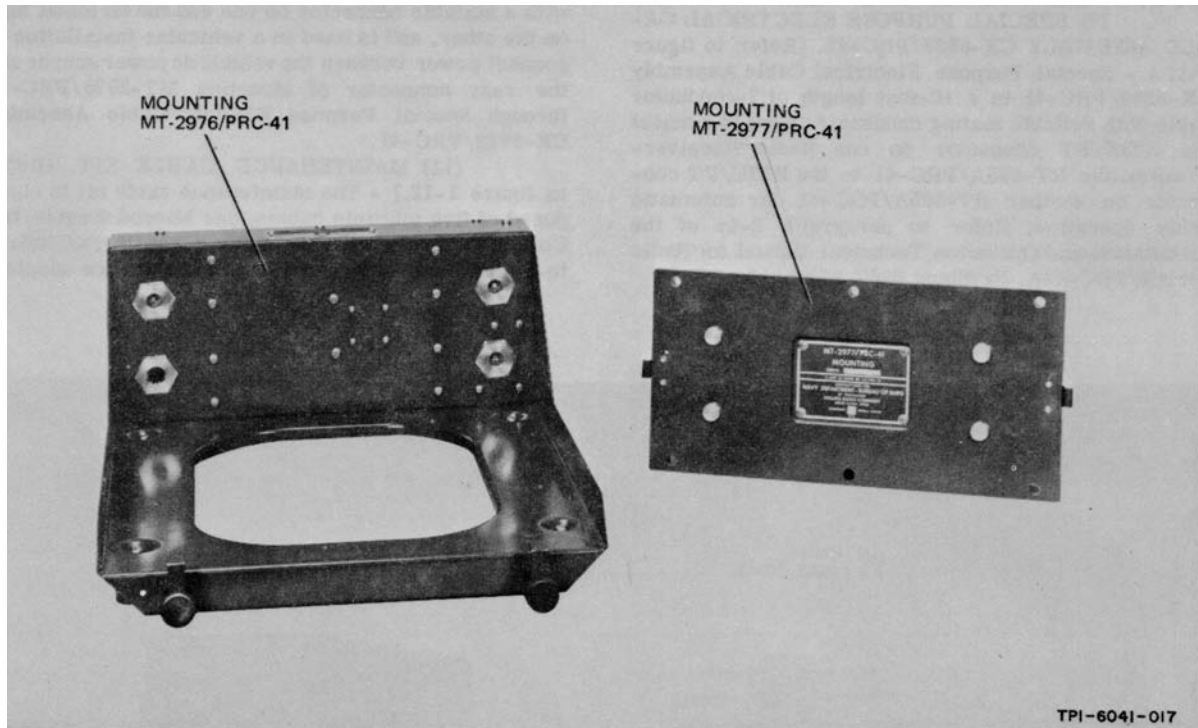

Figure 1-8. Mounting MT-2976/PRC-41 and MT-2977/PRC-41, Oblique View
(3) MOUNTINGS MT-2976/PRC-41 AND MT-2977/PRC-41. (Refer to figure 1-8.) - Mounting MT-2976/PRC-41 is used to mount Radio Receiver-Transmitter RT-695A/PRC-41 in a vehicular installation. Power Electric Cable Assembly CX-8686/ PRC-41 may be connected to the input connector at the rear of MT-2976/PRC-41 that contains circuits to prevent voltage polarity reversal from damaging the RT-695A/PRC-41 and filter circuits for input filtering of the primary power voltage. Primary power is taken from the input connector at the rear of the MT-2976/PRC -41, fed through the mounting circuits, and made available to the connectors at the front of the rear bracket of the MT-2976/PRC-41. These connectors mate with those at the rear of Receiver-Transmitter Case CY-3884/PRC-41. Two takeup fasteners are located at the front of the MT-2976/PRC-41 that clamp over the protection handles on the front panel of the RT-695A/PRC-41 and hold the contacts at the rear of the CY-3884/ PRC-41 to the contacts at the front of the rear bracket of the MT-2976/PRC -41. A mount for Antenna AS-1404/PRC-41 may be secured on the rear of MT-2976/PRC-41 for vertical positioning of the antenna when the RT-695A/PRC -41 and MT-2976/PRC-41